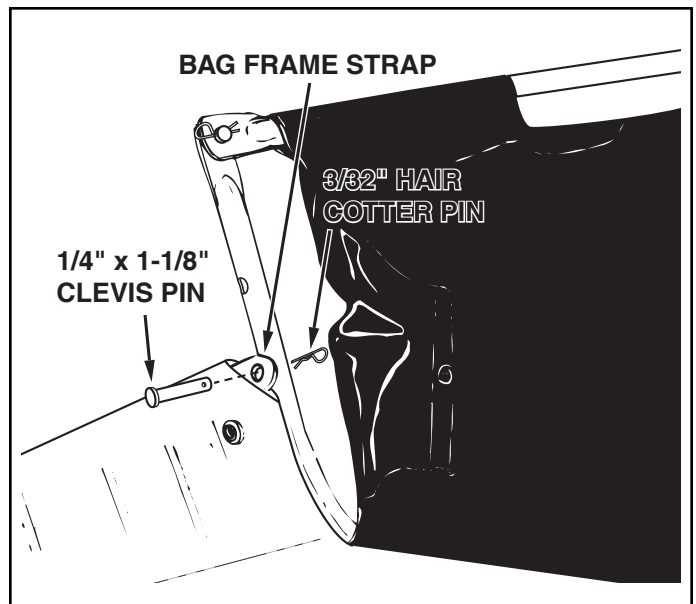

FIGURE 14
- Insert the bag frame strap into the stitched sleeve along the front edge of the bag bottom. See figure 14.
- Assemble the bag frame strap to the holes in the lower hopper tubes using two 1/4" x 1-1/8" clevis pins and 3/32" hair cotter pins. See figure 14.